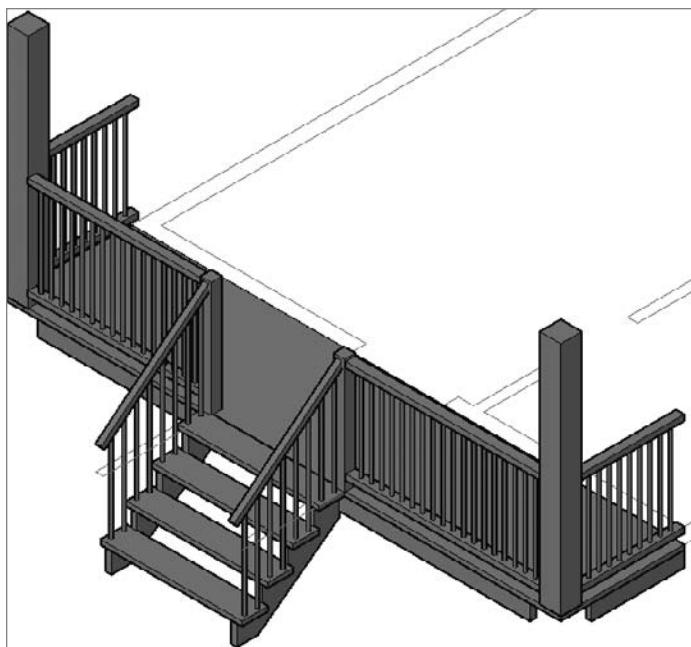

FIGURE 16.73 The completed back deck
15. Click the red light bulb in the lower-right corner of the Application window and choose End Object Isolation. Change to the Conceptual visual style, and drag the ViewCube to get a good look at the new deck; it should look like Figure 16.73.